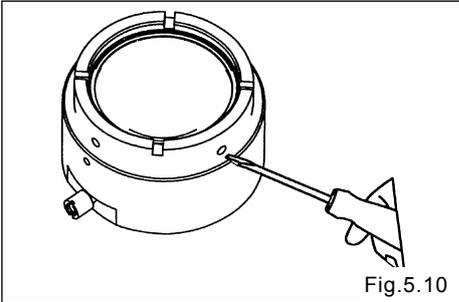

Fig.5.10
- Insert a flat-blade screwdriver into the hole (four) of the air chamber to push up the diaphragm. [Fig. 5.10]